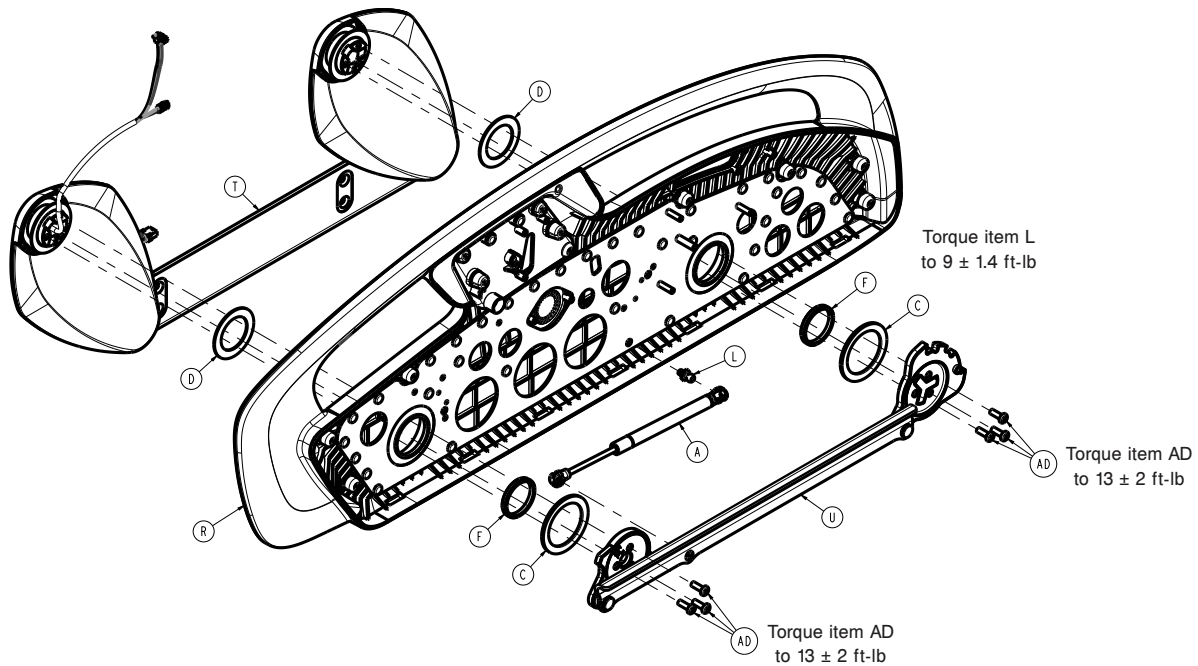

Figure 57 – Replacing the siderail hoop
22. Using a ratchet and a T30 Torx driver, remove the six screws (AD) that secure the timing link cams to the siderail arms (Figure 57).
23. Using a small slotted screwdriver, unclip the gas cylinder (A) from the timing link assembly (U) and the siderail hoop frame (R) to remove the gas cylinder (Figure 57).